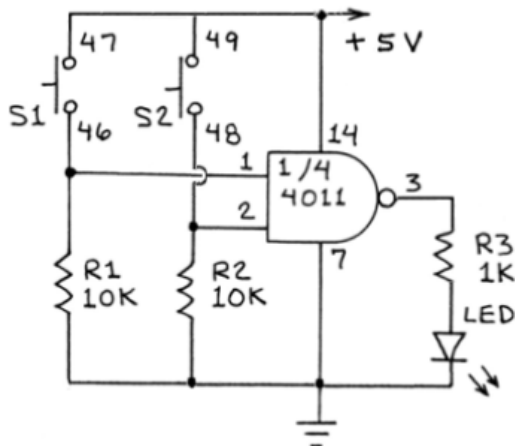

Figure 6.3. IC NAND Gate Logic
3. Wire the circuit of Figure 6.3 (similar to Workbook 2 pg. 34 but using +5 volts.). Insert the **CD4011** 16-pin DIP (dual in-line package) integrated circuit across Slot 2 with its pin 1 at **H10**. It is best (for fastest learning) to wire directly from the schematic rather than using the Workbook suggested wiring. Pins are as shown in Figure 6.4.
4. Leaving the overall circuit of Figure 6.3 in place: